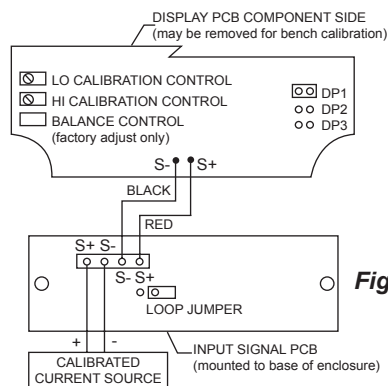

Figure 1
To access the input terminals it is necessary to remove the enclosure cover and the Display PCB. This is done by loosening the four screws on the enclosure cover and removing the cover. Completely loosen the left screw that holds the Display PCB to the enclosure and loosen the right screw about four turns so the Display PCB remains attached to the enclosure. Rotate the Display PCB 90° to gain access to the Input Signal PCB. Next, connect a calibrated current source per Figure 1.
LO and HI calibration controls are located to the left of the display (see Figure 1). Apply a signal equal to 4 mA and adjust the LO control to display the desired reading. Apply a signal between 16 and 20 mA and adjust the HI control to display the desired reading. Complete the calibration procedure by making any minor adjustments to the LO and HI controls.
3. Connect red wire to S+ terminal and black wire to S- terminal, as shown in Figure 1.